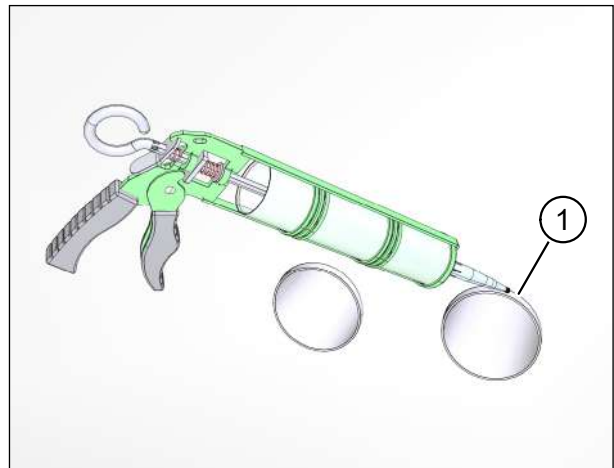

Fig. 42: Sealing ventilation pipes on external wall
- ▶ Chamfer both pipe breakthrough edges (item 1 in Fig. 42) to roughly $5 \times 45^\circ$ to create enough space for the sealing joints with permanently elastic sealant.